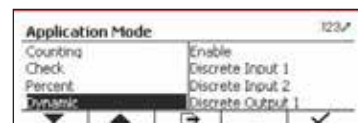

Figure 85
4. In the Application Mode menu, enter the Dynamic submenu. (See Figure 85)